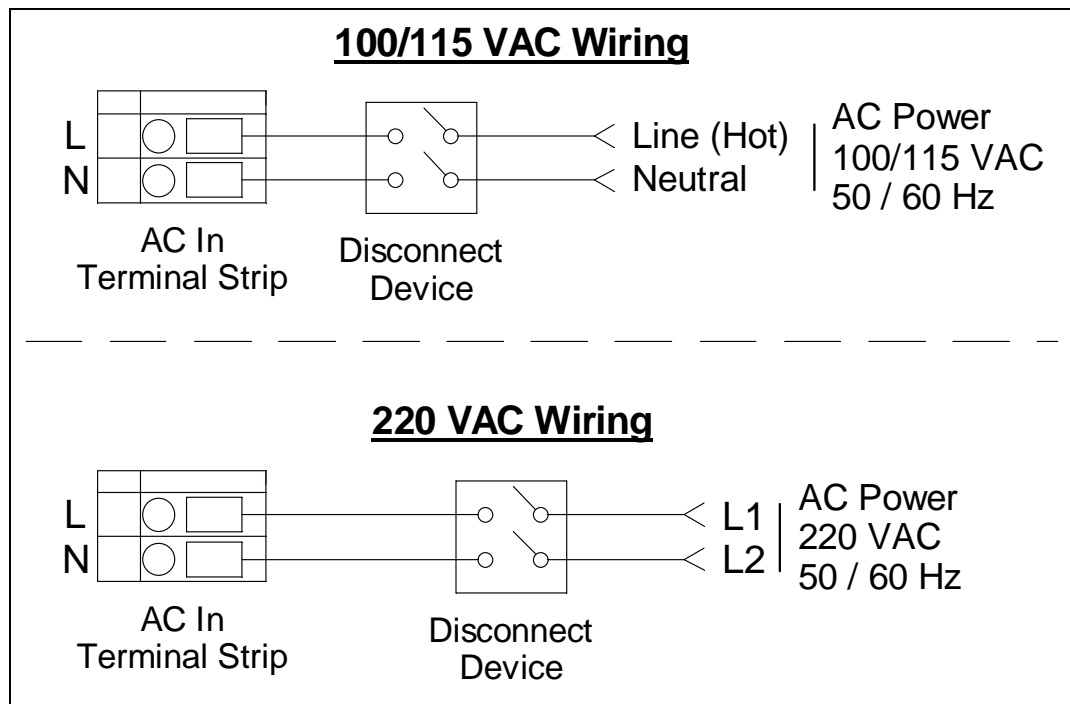

Figure 13: AC Power Wiring
6. Connect the AC wires to the AC in terminal strip as shown in Figure 13 below.